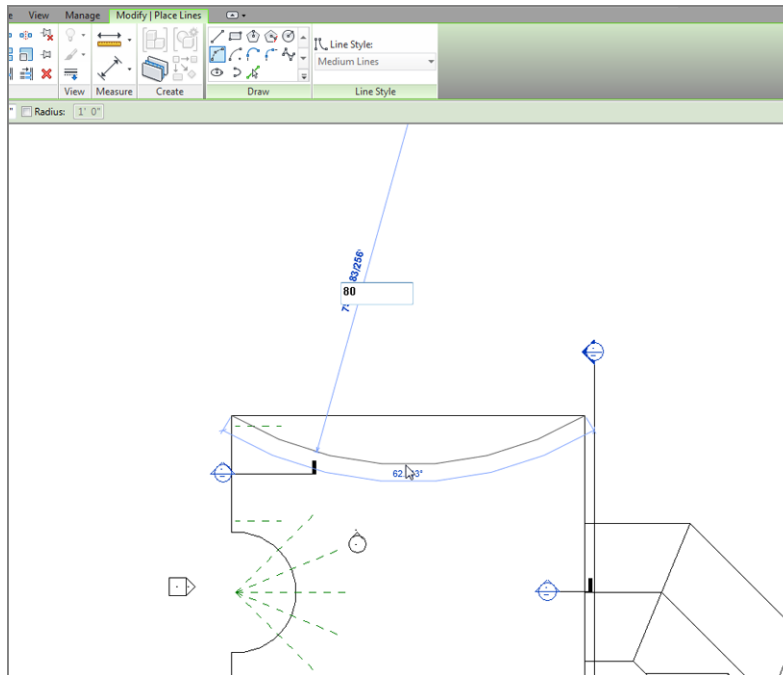

FIGURE 12.76: Drawing an 80'-0" (24m) radius arc
8. On the Draw panel, click the Start-End-Radius Arc button, as shown in Figure 12.76.
9. Draw an arc from the two endpoints shown in Figure 12.76. Make the radius 80'-0" (24000mm). Simply enter the numbers on the keyboard and press Enter, and they will fill in the radius field. Click Modify.